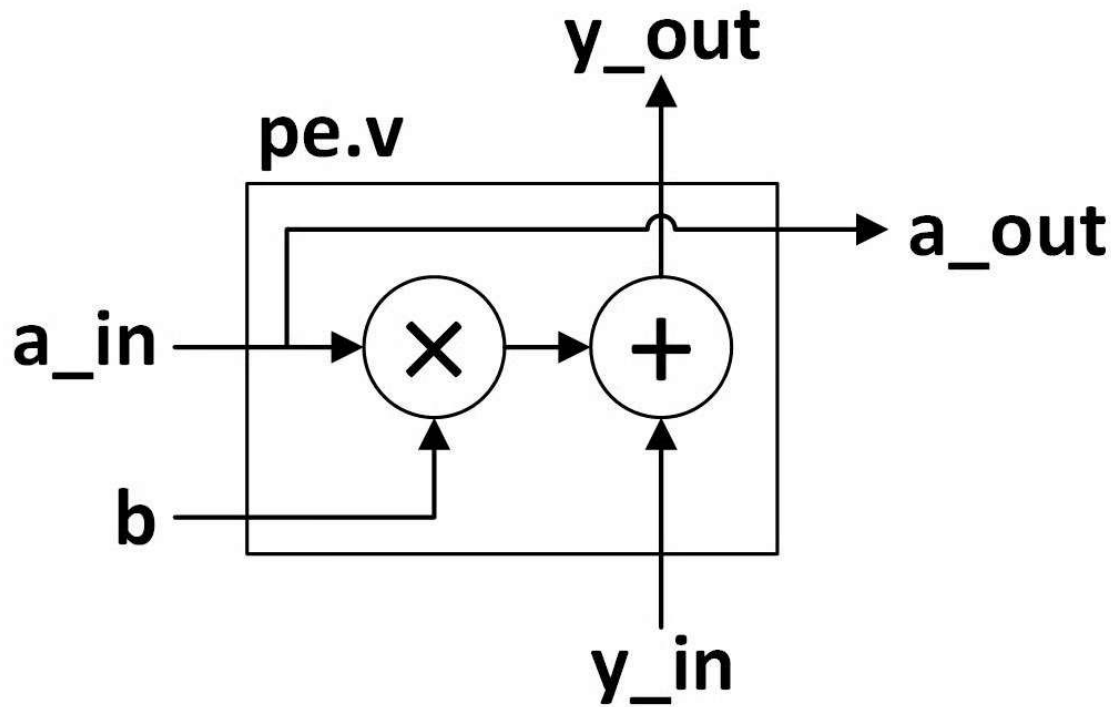
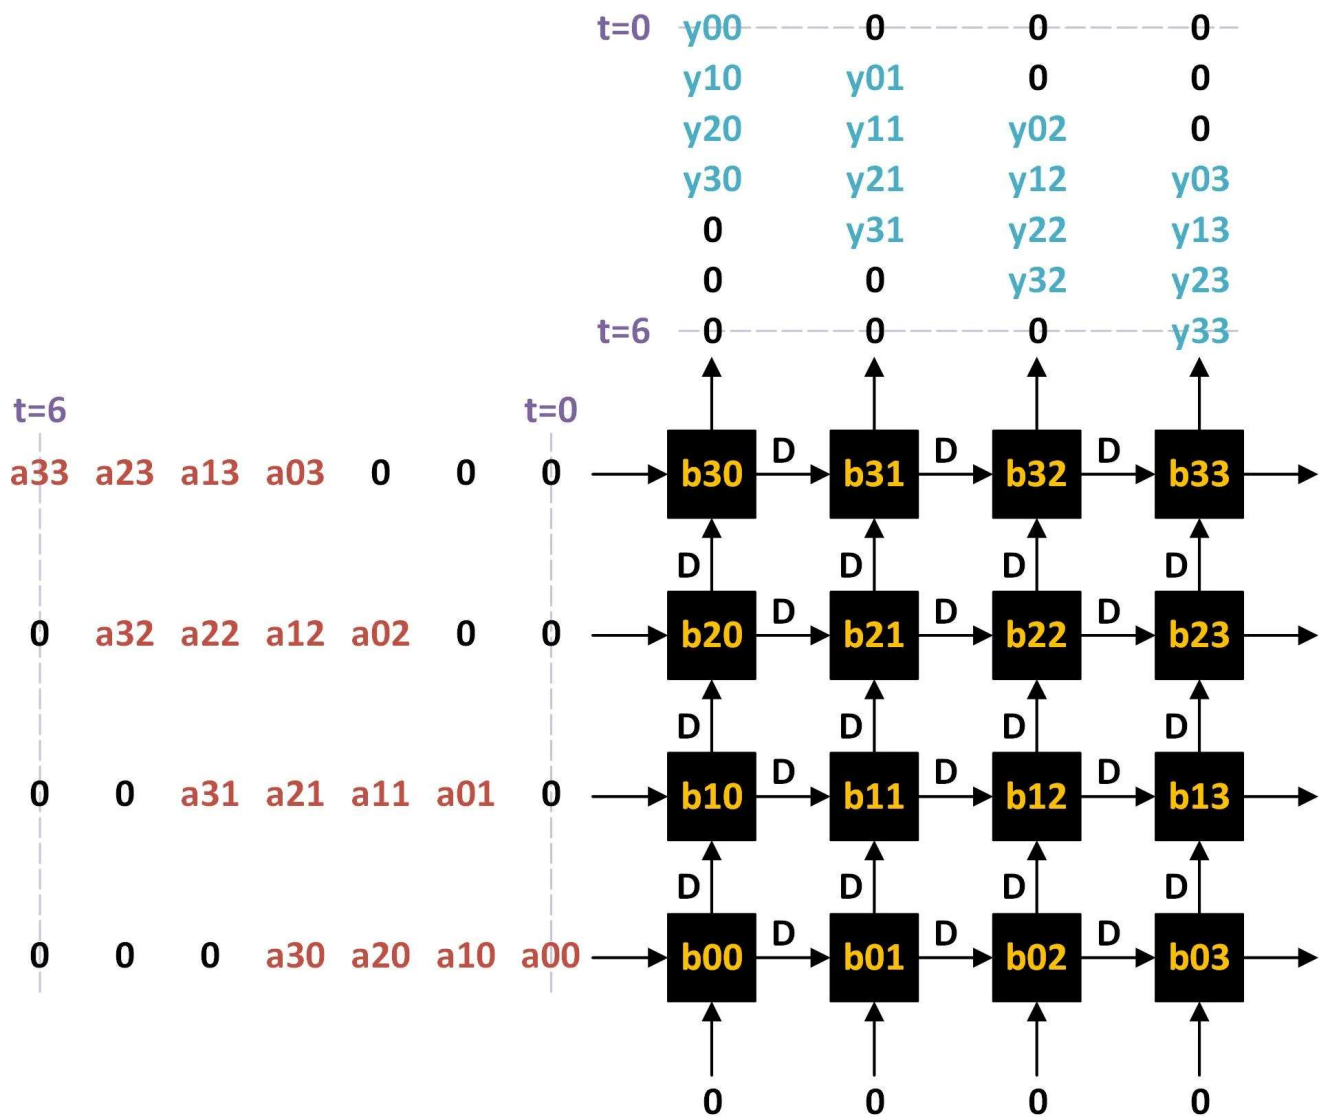

Figure 6. A processing element (PE)
Figure 7. An example of 4x4 systolic array
A systolic array consists of multiple processing elements (PE) and registers. A PE consists of a multiplier and an adder as show in Figure 6. An example of 4x4 systolic array is shown in Figure 7. This illustration shows how to multiply two 4x4 matrices, AA and BB .